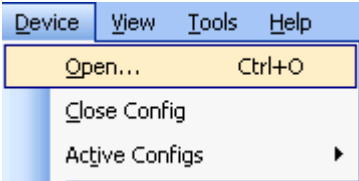

Figure 6: OEMV CD Example
2. Insert the OEMV CD, see *Figure 6*, in the CD-ROM drive of the computer.